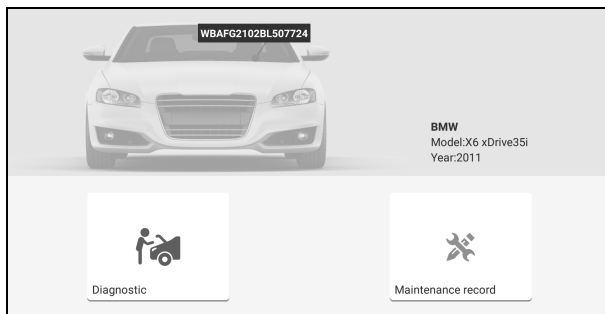

Fig. 5-5
- A. If the VIN can be found from the remote server database, a screen similar to Fig. 5-5 displays:
Input the VIN and tap “OK” to start scanning. If the VIN exists on the remote server, the system will enter the vehicle information screen. See Fig. 5-5.